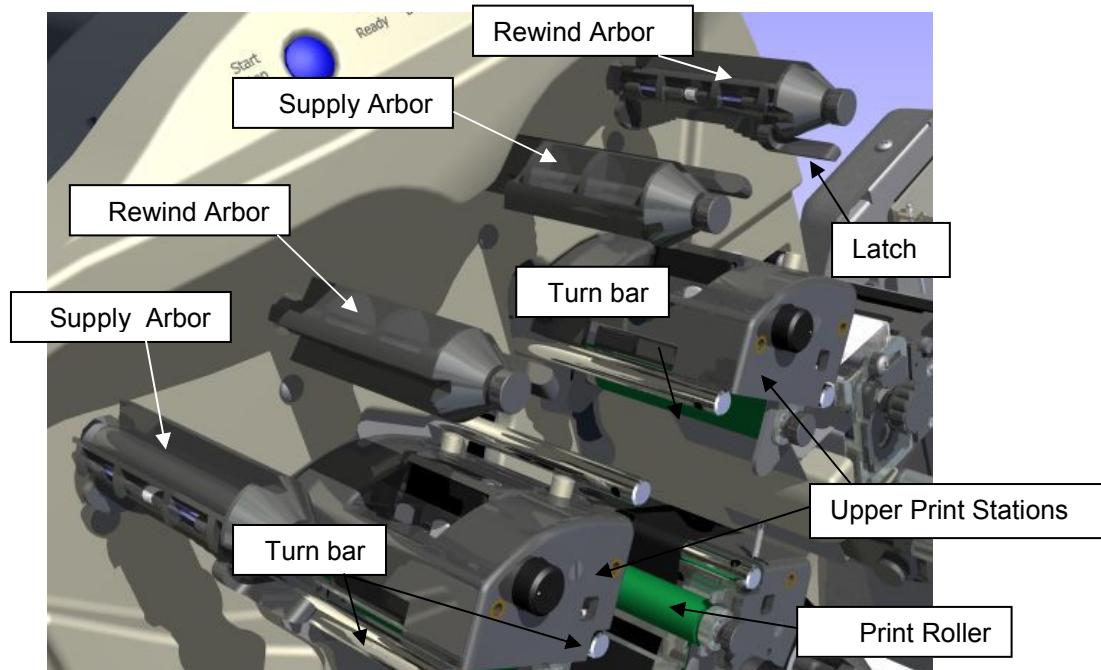

Figure 7: Upper Ink Supply and Print Stations - Unloaded
- b. As you slide the core onto the arbor, you will hear a clicking noise as the latch ratchets onto the core. When the core is centered on the arbor, it will stop. See Figure 7.